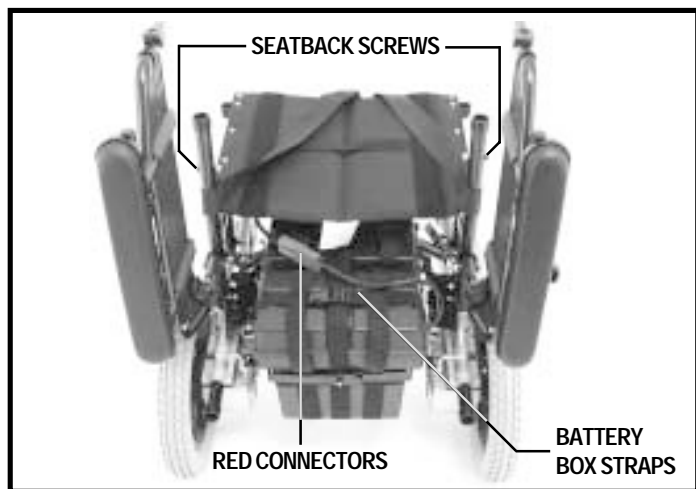

Figure 15. Pride LX Rear View
5. Connect the two red connectors. See figure 15.
6. Connect the straps to secure the battery boxes. Adjust for tightness as necessary. See figure 15.
7. Remove the plastic wrap from the seatback posts and remove the seatback screws. See figure 15.
1. Remove the screws that attach the canes to the frame. See figures 15 and 26.